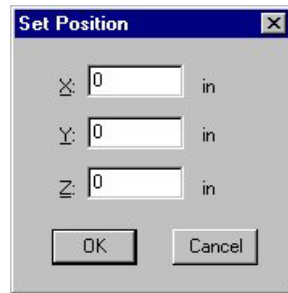

Figure 2-5
- 6 Use the Jog Keypad to jog the tool to the top of the front left corner of the workpiece, as shown in Figure 2-5. Stop just before the tool touches the top of the workpiece.